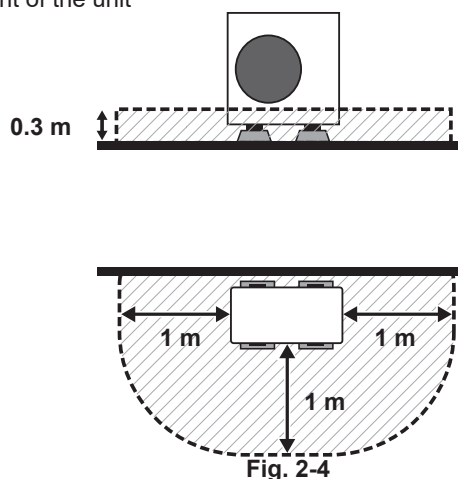

Fig. 2-4
(2) When installed in a location with 3 surfaces opened (in front of a building wall) (Fig. 2-4)